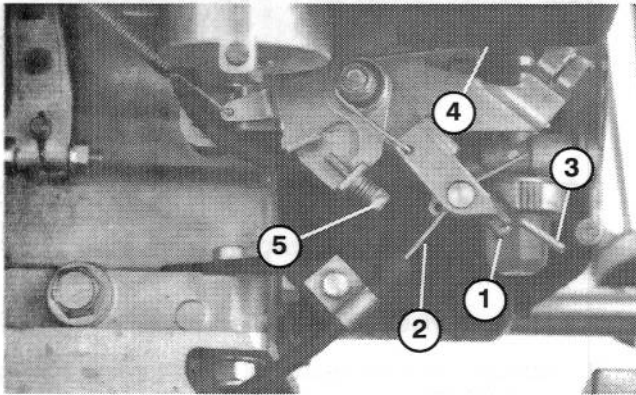

Figure 40
2. Loosen screw securing throttle cable to carburetor arm (Fig. 40).